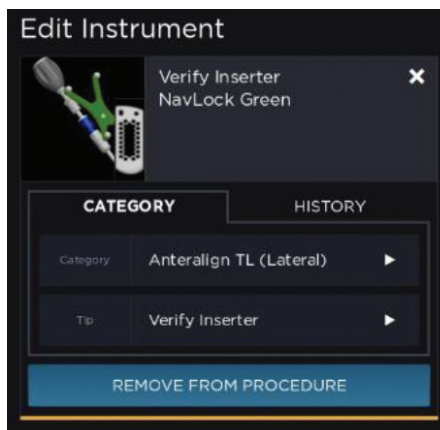

Figure 21
1. Verify the NavLock™ tracker with an instrument such as an awl. Then, change NavLock™ tracker to pair with the Anteralign™ TL toolcard (**Figure 21**).